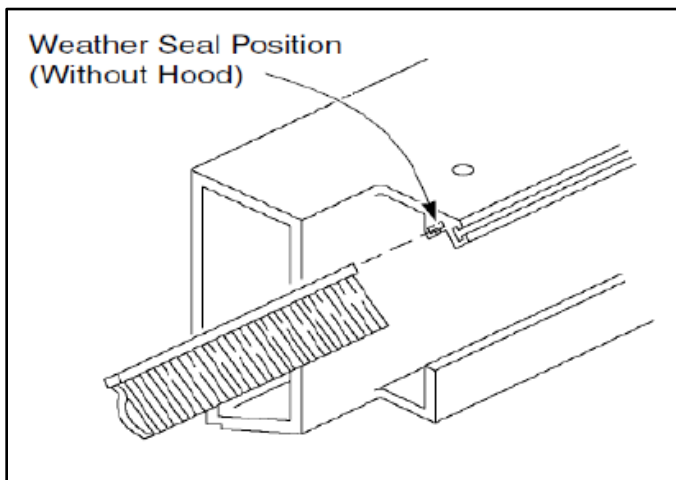
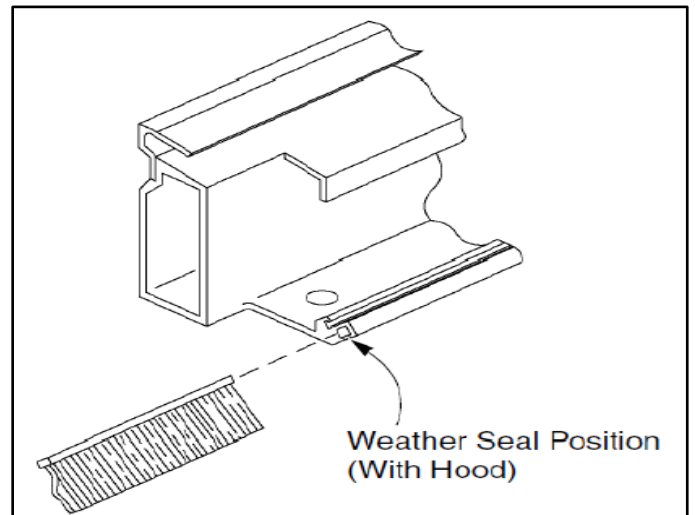

Figure 32
Figure 33
3. Insert the new brush weather seal in the channel. (See Figure 32 and Figure 33 for positions.)